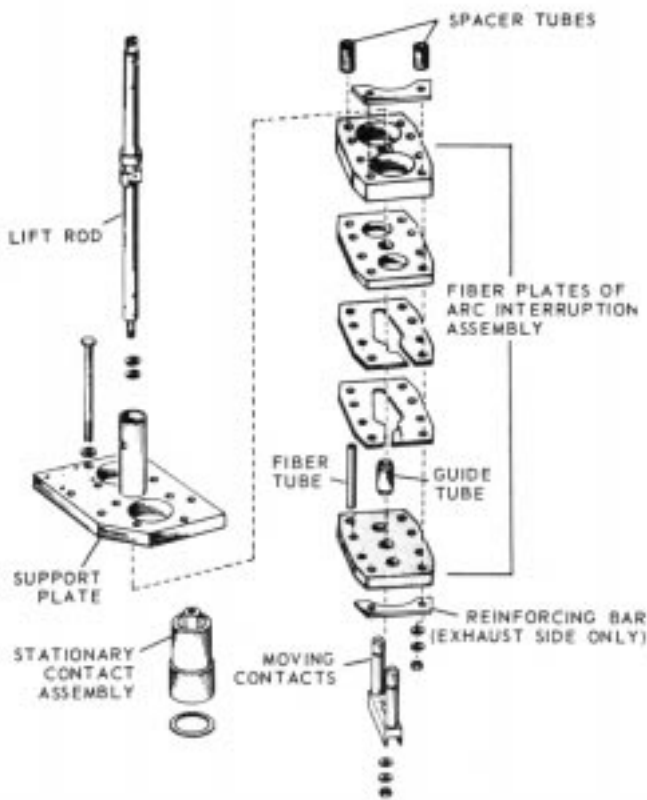

Figure 9
4. Slide the arc interrupter assembly downward. Figure 9 shows the individual parts in the order of removal.
10. If the fiber plates are not to be replaced, refer to figure 9, and reassemble the interrupter in the following order: